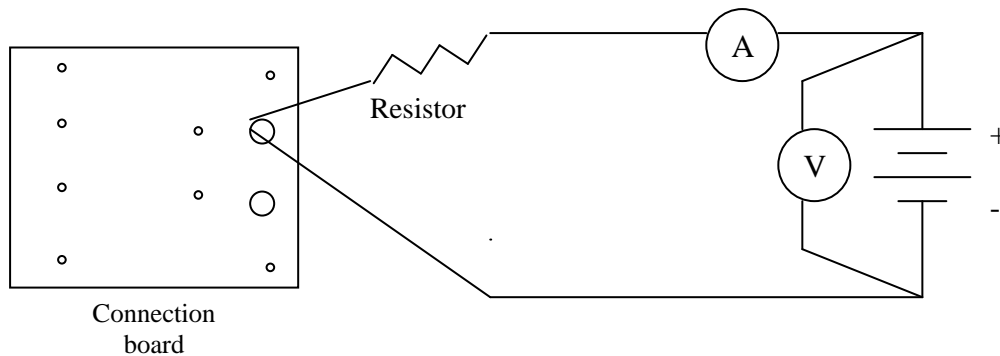

Figure 5A-2 Schematic illustration of resistance measurement of circuit assembly without a wire.
3. Connect the power supply across the resistor and one of the multimeter or the voltmeter across the power supply. Also, connect the second multimeter or the ammeter in the circuit loop as illustrated in Fig. 5A- 2.